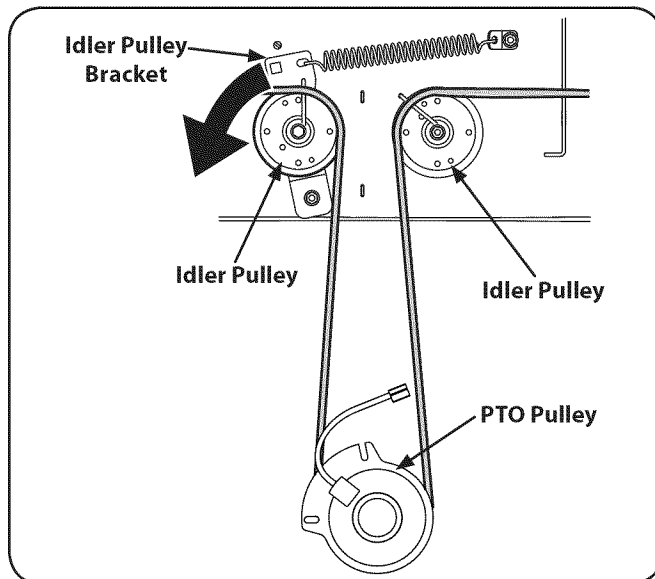

Figure 7-4
3. Using a ½" drive in the idler pulley bracket, turn the wrench towards the back of the tractor and slide the belt off the PTO pulley. See Fig. 7-4.